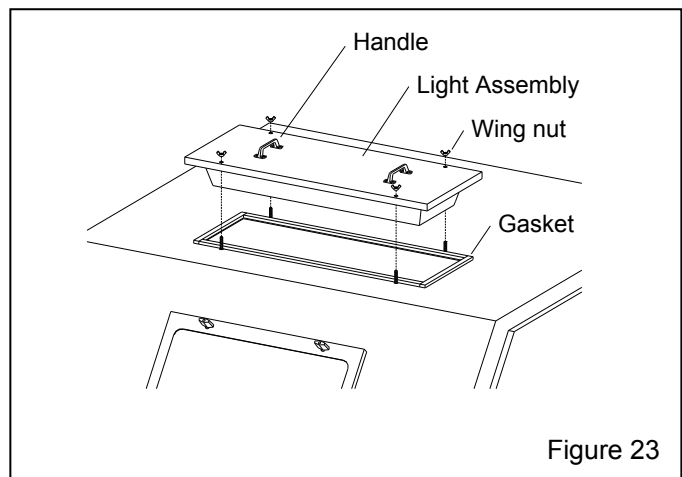

Figure 23
**7.7.2.1** Remove the four wing nuts holding the light fixture to the cabinet, and use the handles to lift the fixture off the cabinet, as shown in Figure 23.
**7.7.2.3** Lay a section of strip gasket next to the opening, and cut to length, allowing 3/4" overlap on each end. Peel a short section of adhesive backing and adhere the strip gasket to the top edge of the light opening, as shown in Figure 23. Press the gasket firmly to bond. Repeat the process for each side, compressing the ends to seal.